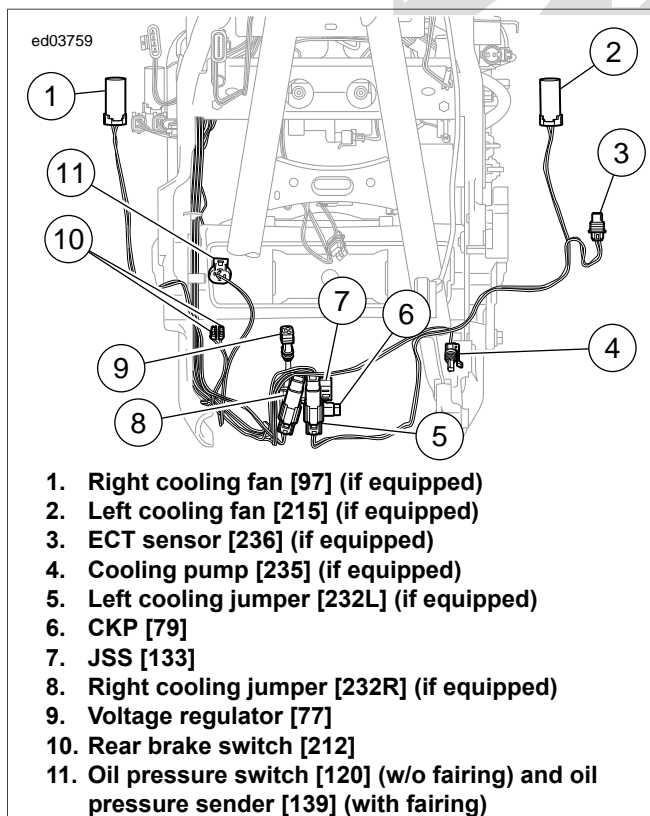

Figure 4-21. Front of Engine
See Figure 4-21. The neutral indicator is controlled through the (W) wire connected to the speedometer/IM. When the transmission is in neutral, the neutral switch closes and supplies a ground to the BCM on terminal D3. The BCM then sends a message to the speedometer/IM over the CAN bus indicating the transmission is in neutral. The speedometer/IM supplies ground to the neutral indicator causing it to illuminate.
See Figure 4-21. The oil pressure indicator is connected to the speedometer. The switch closes when oil pressure is low and supplies ground to the BCM at terminal E3. The BCM then sends a message to the speedometer over the CAN bus indicating the oil pressure is low. The speedometer supplies ground to the oil pressure indicator. This ground causes the indicator to illuminate with the IGN ON and the engine OFF.